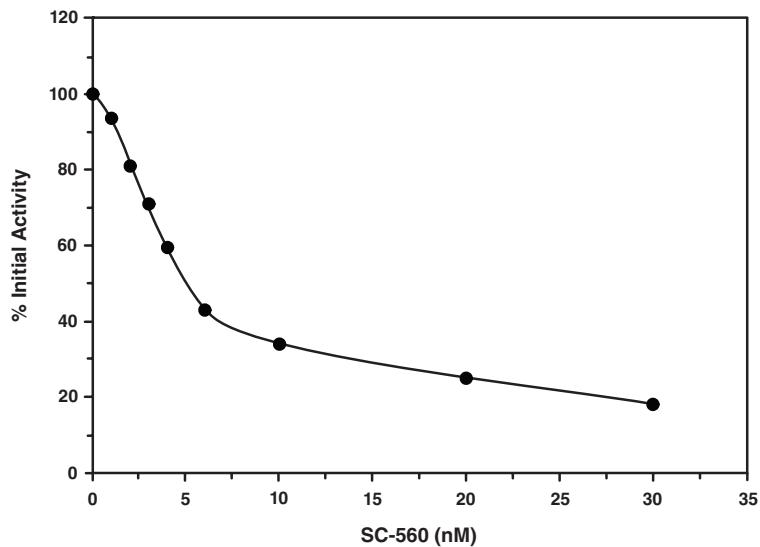

Figure 3. Inhibition of ovine COX-1 by SC-560
4. Graph either the Percent Inhibition or Percent Initial Activity as a function of the inhibitor concentration to determine the IC₅₀ value (concentration at which there was 50% inhibition). Examples of COX-1 and COX-2 inhibition by SC-560 and DuP-697, respectively are shown in Figures 3 and 4 (see pages 14 and 15, respectively).